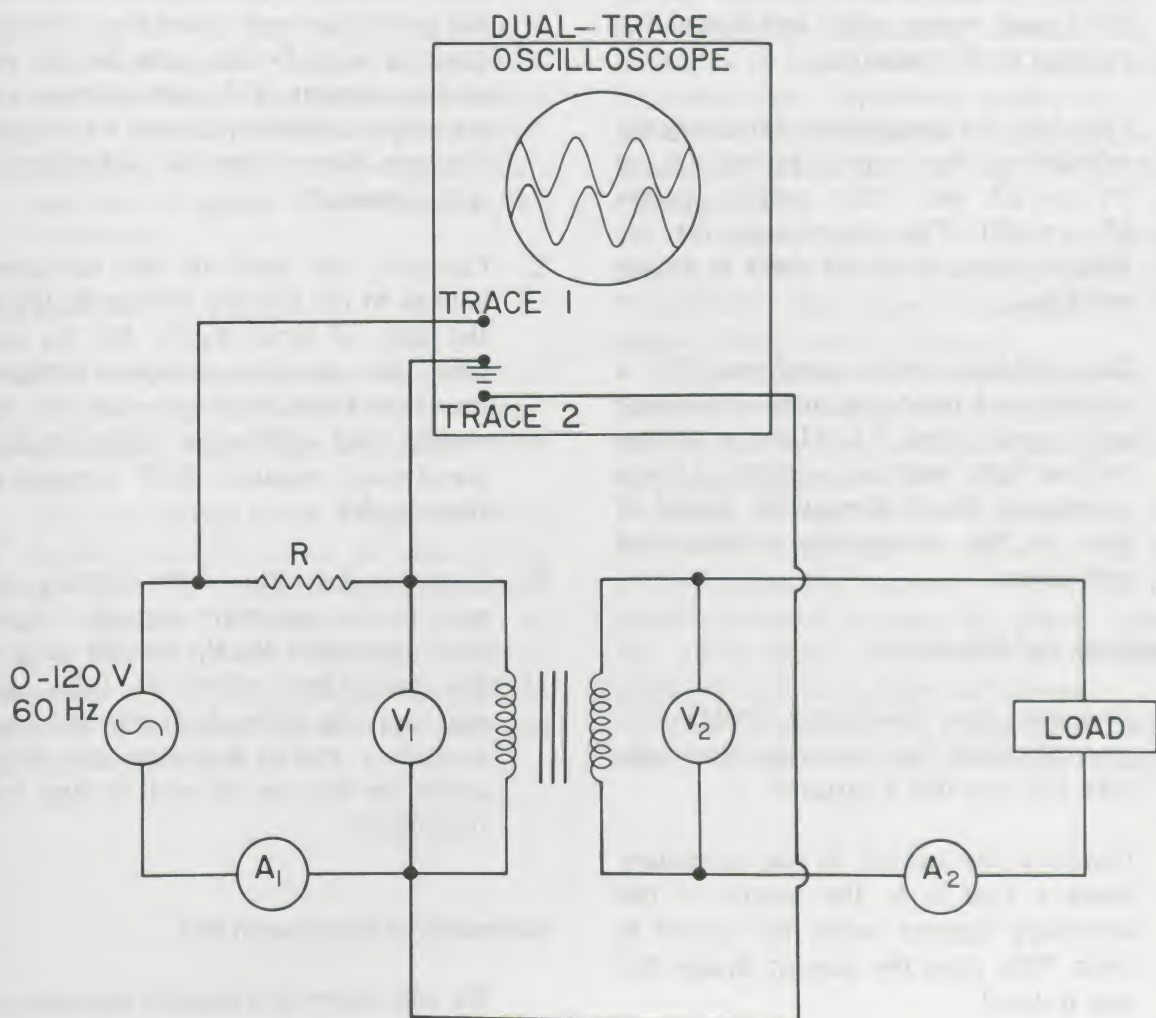

Figure 39. Circuit for Experiment B-3.
1. Connect the circuit indicated in Figure 39. The AC power source should be a 120-V, 60-Hz AC line fed through a variable transformer and an isolation transformer, as in earlier experiments.